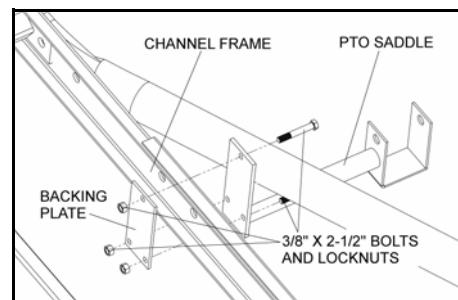

Figure 3.50
18. Install PTO saddle on channel frame and secure with backing plate and three  $3/8'' \times 2-1/2''$  bolts and locknuts as shown in Figure 3.50.